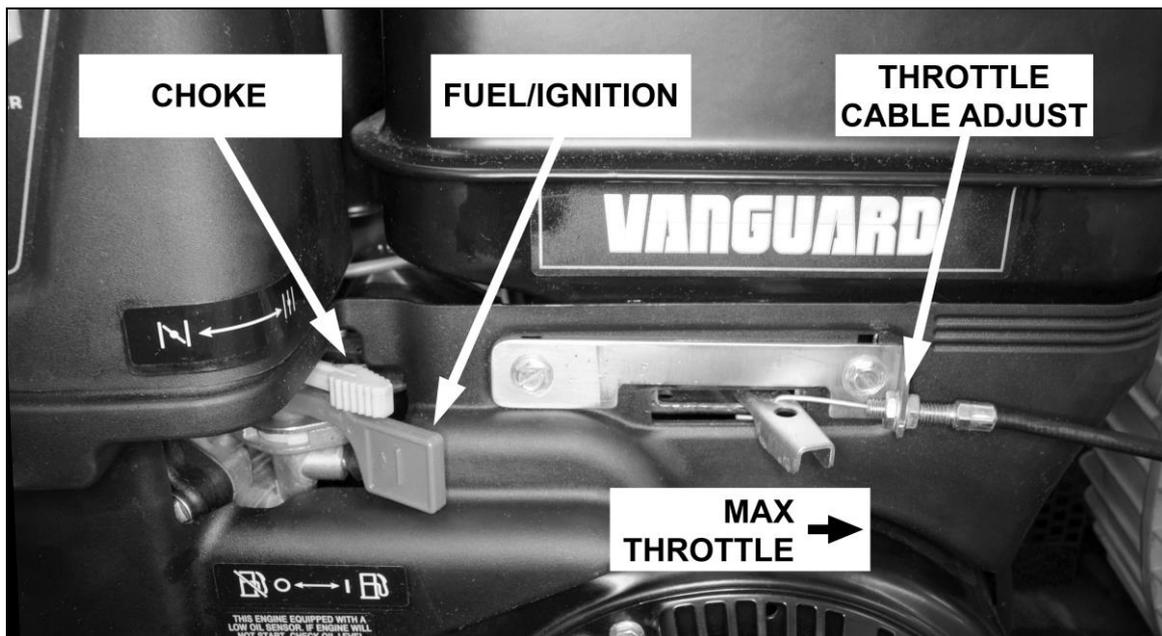

Fig. 3 – Engine Controls
2. Move the red combined **Fuel Valve** and **Ignition** lever on the engine to the full OPEN position (I ) – see Fig. 3.